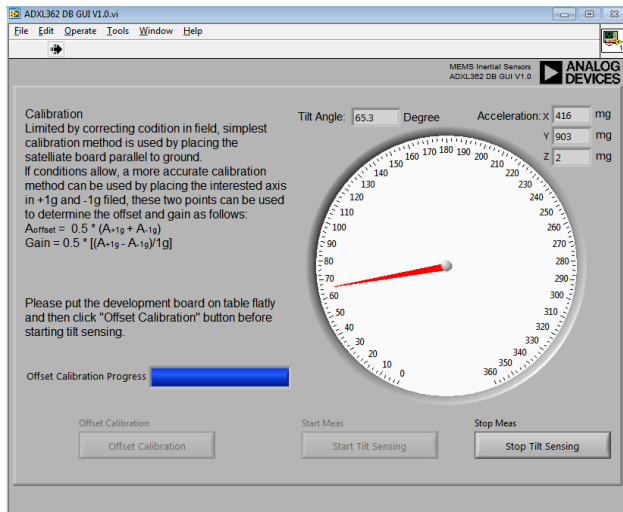

Figure 39. Inclinometer Demo
16. ADXL362 DB GUI also support inclinometer demo. Go to **Inclinometer** tab, read the notes firstly. Then, put the development board on table flatly to make it parallel with the ground (z axis in 1g field), click **Offset Calibration** button, wait around 10 seconds to finish offset calibration. After that, click **Start Tilt Sensing** button to test the development board tilt angle (please try to make z axis in 0g filed when playing tilt sensing). You can click **Stop Tilt Sensing** button to stop tilt sensing function at any time (See Figure 39).